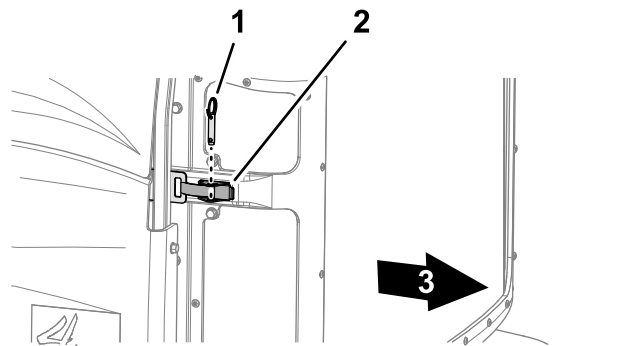

Figure 62
2. Remove the ball pin from the screen latch (Figure 62)